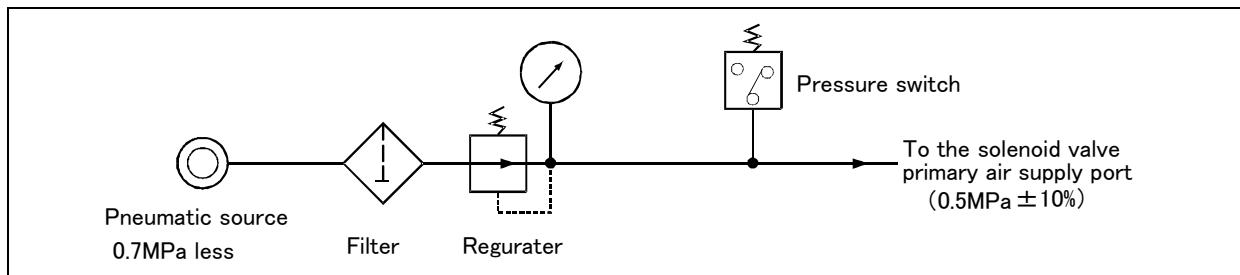

Fig.2-10 : Air supply circuit example for the hand
Fig. 2-10 shows an example of pneumatic supply circuitry for the hand.
- (1) Place diodes parallel to the solenoid coil.
- (2) When the factory pneumatic pressure drops, as a result of the hand clamp strength weakening, there can be damage to the work. To prevent it, install a pressure switch to the source of the air as shown in Fig. 2-10 and use the circuit described so that the robot stops when pressure drops. Use a hand with a spring-pressure clamp, or a mechanical lock-type hand, that can be used in cases where the pressure switch becomes damaged.
- (3) The optional hand and solenoid valve are of an oilless type. If they are used, don't use any lubricator.